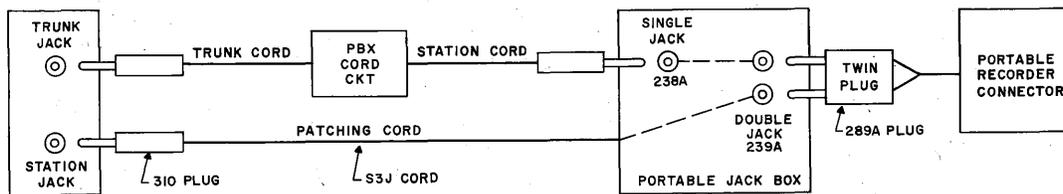

Fig. 4 - Block Diagram Patching Portable Recorder Connector to PBX Through Portable Jack Box
6.01 Upon being informed of the need for recording, the PBX attendant starts the recorder and patches the recorder connector into the circuit through the portable jack box as shown in Fig. 4.